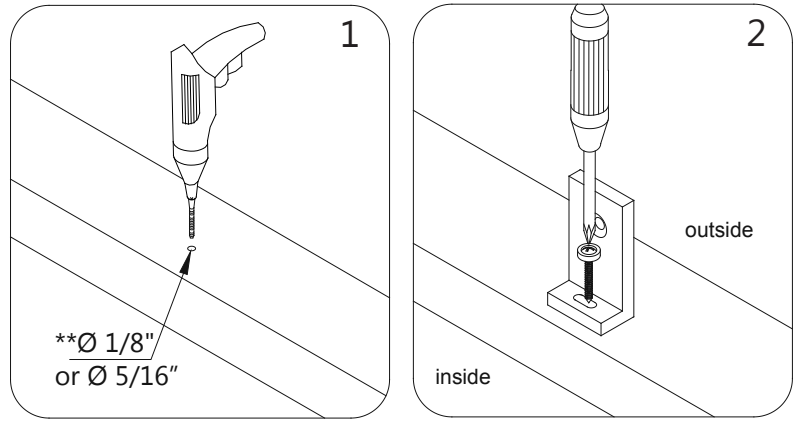

Fig 6
**** Use an $\varnothing 1/8''$ drill bit for installation into an acrylic base OR use a $\varnothing 5/16''$ drill bit and an anchor for installation into a tile threshold. Use the **Round Head Screw ST4.2x35 (#16)** along with a raised white washer to attach the **Bottom Bracket (#18)** to the shower base or threshold. (Fig 6)**